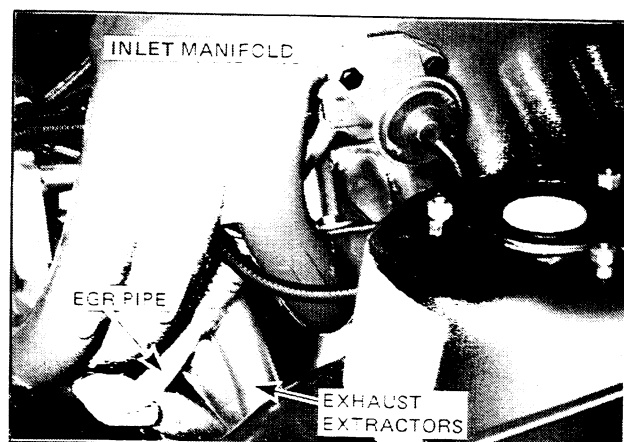

Figure 6C-85
10. Remove inlet manifold brace bar. Refer Fig. 6C-86.